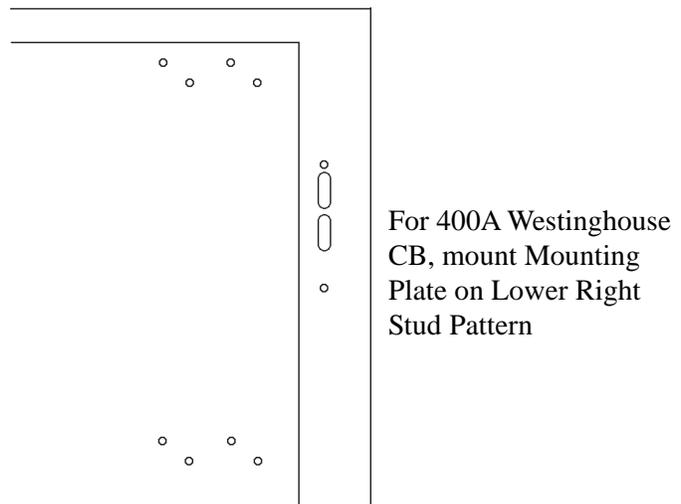

Figure 8
4. Assemble Circuit Breaker Mounting Plate with attached Breaker and Operator to cabinet on lower right set of provided mounting studs (see Figure 8) using provided 1/4" Lock Washers and 1/4-20 Hex Nuts.